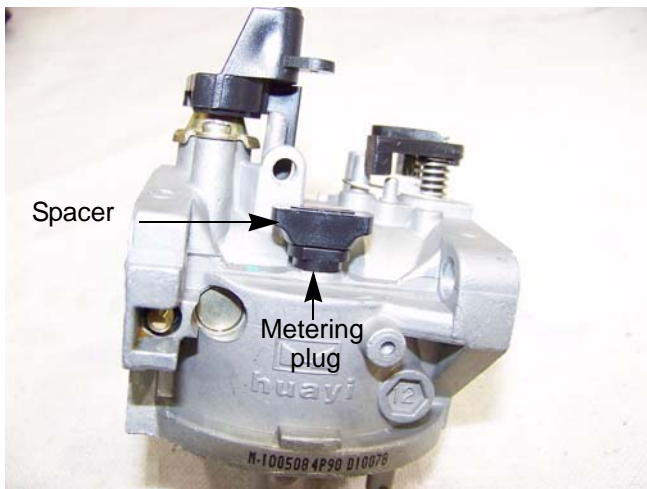

Figure 4.12
8. Carefully pry out the metering plug and spacer using a small screwdriver. See Figure 4.12.